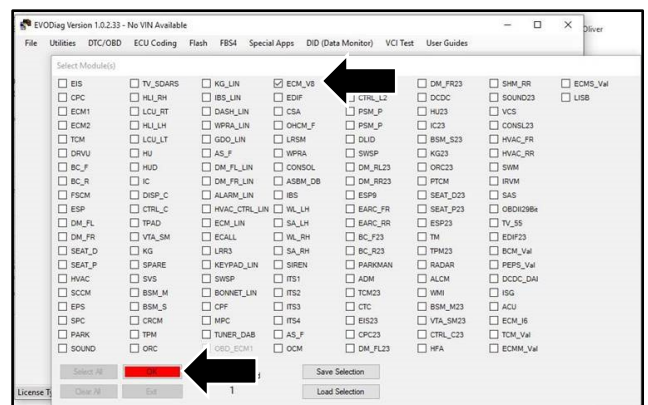

Figure 9
15. Select "ECM\_V8" then "OK" (refer to Figure 9).